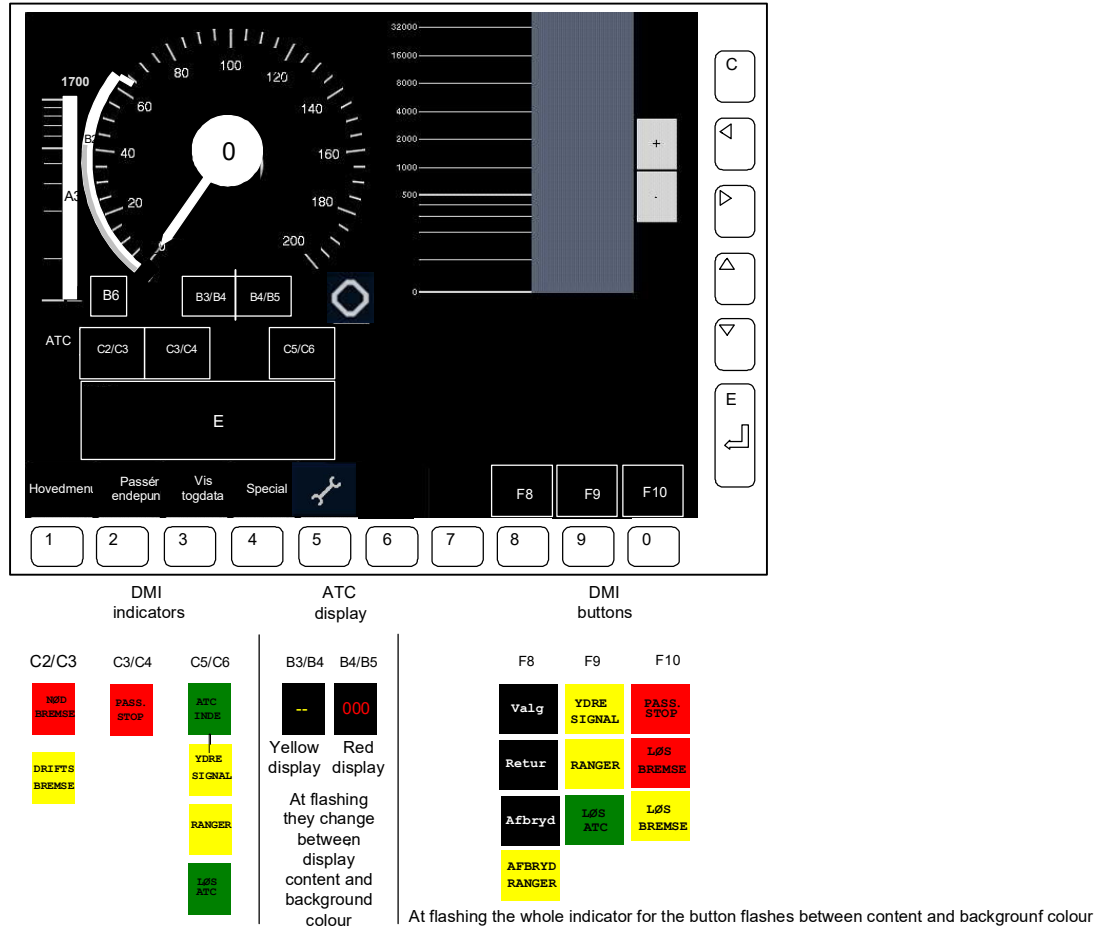

Fig. 3 Overview over DK-STM Used Areas on DMI
- Text box for system notification and error notifications. E area, see Fig.3
- FF XXX error notifications in B3/B4 and B4/B5 areas, see Fig.3
Fig. 3 Overview over DK-STM Used Areas on DMI shows which DK-STM buttons and indications that is possible. It is seen that in certain area positions it is possible to show different indications/buttons dependent on the DK-STM condition.